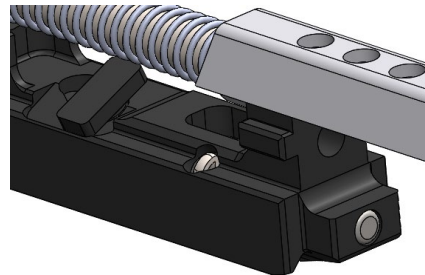

Figure 39: Inserting the Firing Pin Retainer
bolt carrier until it sits just below, flush with the back of the bolt carrier. (Figure 39)
3. Pull the bolt head forward and rotate the bolt guide pin 90 degrees, then insert the firing pin (small tip forward) into the bolt carrier until it sits just below, flush with the back of the bolt carrier. (Figure 39)
4. Insert the firing pin retention pin in the bolt carrier from the top and push until it rests below the surface of the bolt carrier. (Figure 39)